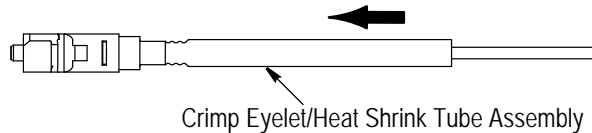

Figure 6
3. Uniformly distribute the cable strength members around the rear body of the connector. See Figure 6, Detail A.
4. Slide the crimp eyelet/heat shrink tube assembly forward over the cable strength members until the crimp eyelet bottoms against the connector. See Figure 6, Detail B.